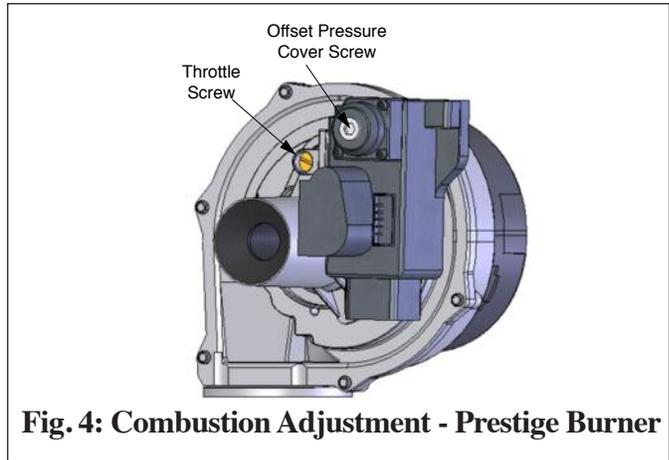

Fig. 4: Combustion Adjustment - Prestige Burner
If the combustion levels during high fire is outside the recommended combustion settings adjust the **THROTTLE SCREW** (see Fig. 4) as follows:
- 5. If the combustion level during low fire is not within $\pm 0.2\%$ of the combustion level measured at high fire, adjust the metal offset screw inside the brass fitting on the top right of the gas valve (see Fig. 4) as follows.